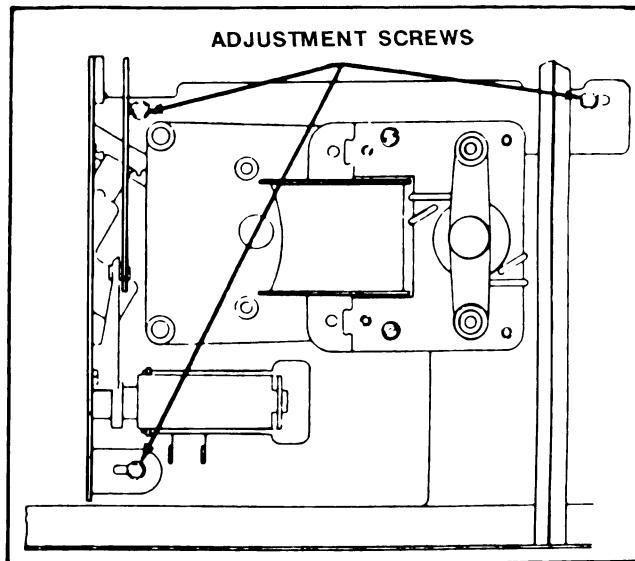

Figure 6-15. Magazine Adjustment
- With sprag wheel locked, move the magazine until the disc is centered between belt guides (The adjustment screws will be approximately centered in the slots, see figure 6-15).